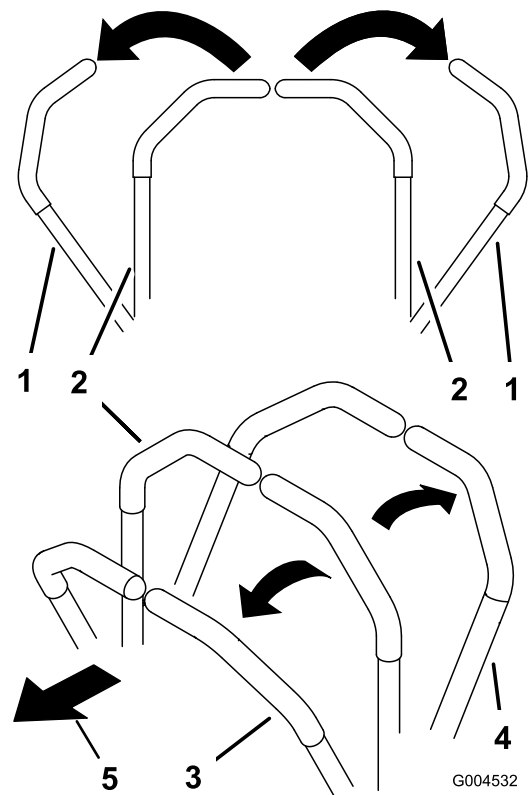

Figure 25
- To move straight forward, slowly push the motion-control levers forward (Figure 25).
- To move straight rearward, slowly pull the motion-control levers rearward (Figure 25).
- To turn, slow the machine by pulling back on both levers and then push forward on the lever on the opposite side from which you want to turn (Figure 25).